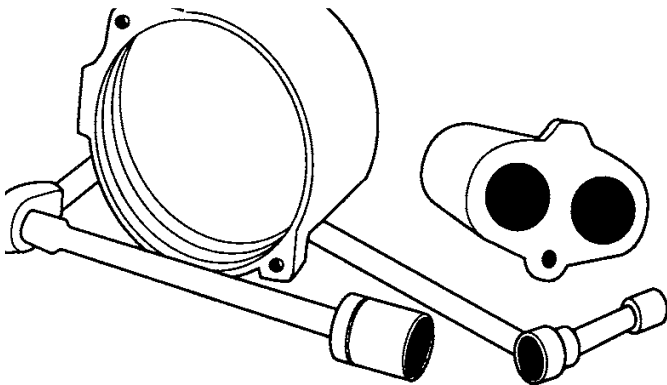

Figure 18 - Remove Nozzle
6. The nozzle on 1/2 HP models can be removed from pump case with any standard 1-1/4" socket wrench with an extension (Figure 18). On 3/4 and 1 HP models the nozzle is part of the pump body. When replacing nozzle and venturi, be sure they are tight against the shoulder. Use care to not cross thread. If nozzle is not fully engaged in case, flow will be blocked by venturi entrance.